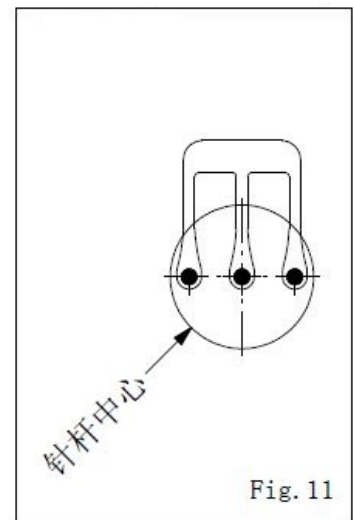

Fig. 11
- (1) 针必须完全装入针镙孔最顶端。
- (2) 经过针棒高度调整后，必须确定每一根针皆通过针板的针孔正中央，不可以偏斜，且三根针需呈平行。(图 11)
- (1) Be sure insert the needle into the Needle Holder as far as it can go.
- (2) After the Needle Bar adjustment, please make sure that every needle are passed though the center of the needle hole on the Needle Plate. Beside, the three needles must be in parallel and the gap must be even. (Fig. 11)